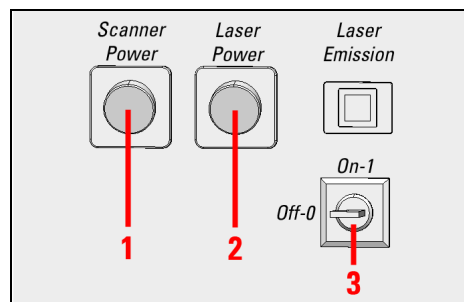

Figure 107: Overview of the Control Panel Field on the Compact Supply Unit
5. Turn off the lasers in the supply unit with the key switch on the front side of the compact supply unit (see **Figure 107, item 3**).
10. Switch off the lasers (see **Figure 107, item 2**) and the scan head (see **Figure 107, item 1**) on the front side of the compact supply unit.